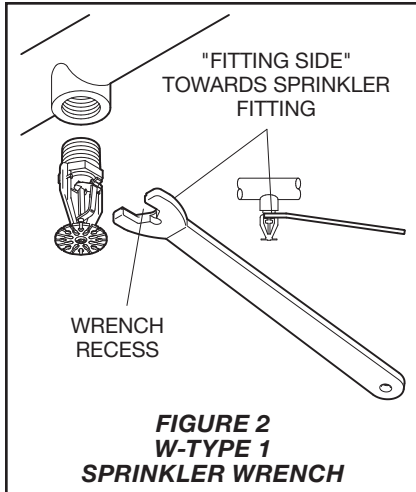

FIGURE 2
Note: Install the Model ESFR-22 Pendent Sprinkler in the pendent position (Ref. Figure 2).
Step 2. Use only the W-Type 1 Sprinkler Wrench (Ref. Figure 2) to install the Model ESFR-22 Pendent Sprinkler. Fully engage (seat) the wrench recess on the sprinkler wrench flats (Ref. Figure 1) and wrench-tighten.